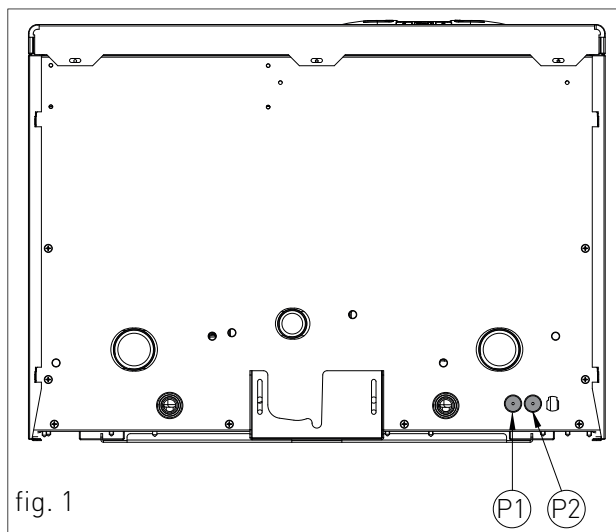

fig. 1
- › loosen the two screws and remove the plate "A" (see fig. 1).
- › after removing the plate, connect the electrical cables to terminal block "B" (see fig. 1):
The cables should be inserted inside the boiler using the fairleads 'P1' and 'P2' placed on the hydraulic connections bottom plate (see fig. 1). Make a hole on the fairlead, smaller than the cable diameter, to make sure that the air cannot pass through.